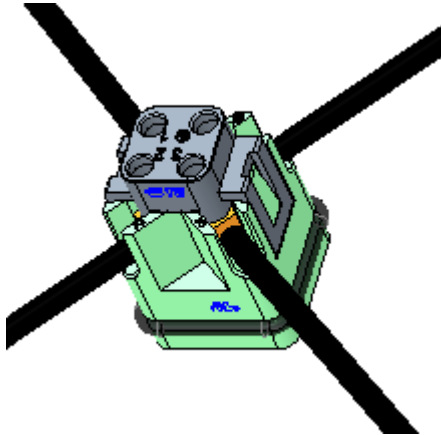

Figure: 4
- c. Repeat till wires are fully assembled. (Figure: 4)